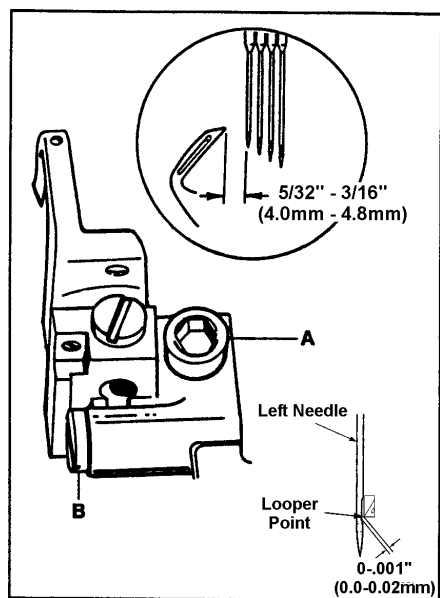

FIG. 15
Turn the handwheel in operating direction until the looper has traveled fully to the left. Loosen screw (A, Fig. 15) and move the looper holder to the right or left until the distance from the point of the looper to the center of the first (left) needle is  $5/32'' - 3/16''$  (4.0mm - 4.8mm). Set looper point  $.000'' - .001''$  (0.0-0.02mm) to first needle. Turn screw (B) until the proper dimension is achieved. Tighten screw (A). Looper point should not deflect or pinch needles.